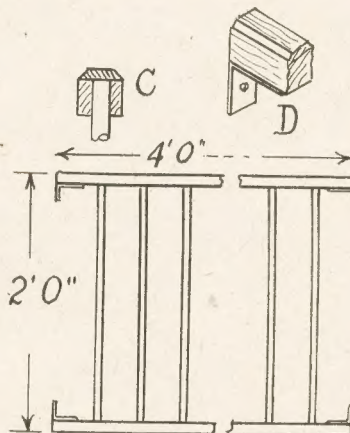

Fig. 3—Rail and fitting for sides
The rails can now be removed from the legs, and a shaving taken off the top rail to level off any bits of the dowel rails that may be sticking up. Finish off this part by gluing a $\frac{1}{2}$ in. by 1 in. strip of wood over to hide the ends of the rods. This strip looks neater if its edges are bevelled off, as shown at (C) in Fig. 3. The rails can
The sides of the cot comprise two horizontal rails, connected together with the dowel rods before mentioned sizes of timber as for the ends. Dimensions of the sides are given at Fig. 3. The dowel rails are fixed at 4 in. centres just the same as the ends of the cot. The side which will be the rear and fixed side of the cot, as distinct from the drop side, is provided with a metal bracket at each end of the horizontal rails. These can be just the common furniture brackets, the 2 in. size, such as can be bought at hardware shops.